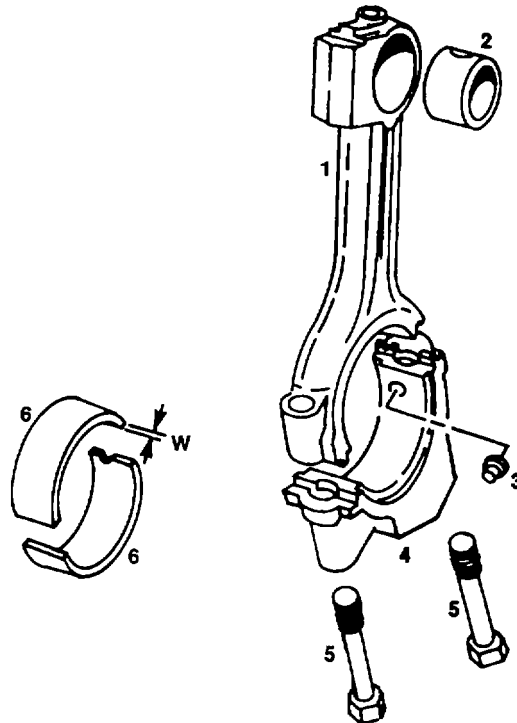
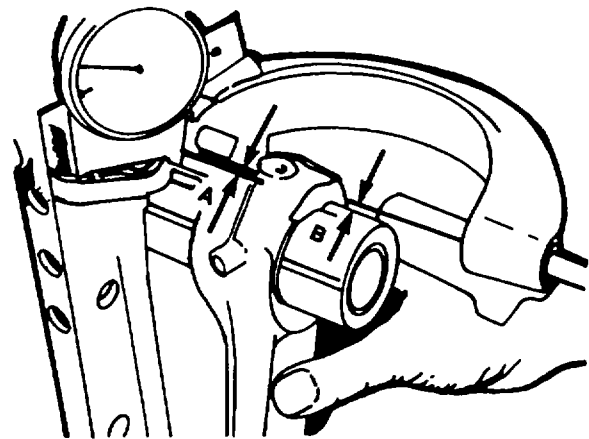

Figure 4-19. Connecting Rod Assembly
Figure 4-21. Checking Connecting Rod for Parallelism
- f. Assemble the connecting rod bearing cap (4) to connecting rod (1); ensure that they bear the same identification number (figure 4-19)
p. Check connecting rod with mounted small end bushing (2, figure 4-19), but without connecting rod shells (6, figure 4-19), for parallelism (figure 4-21). Use a connecting rod tester.